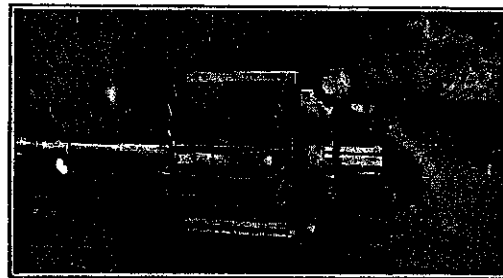
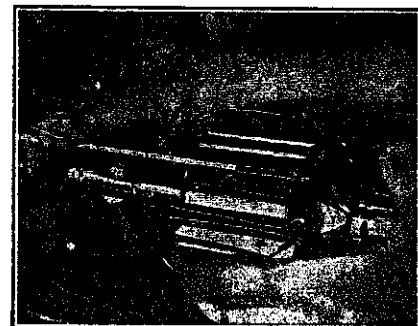
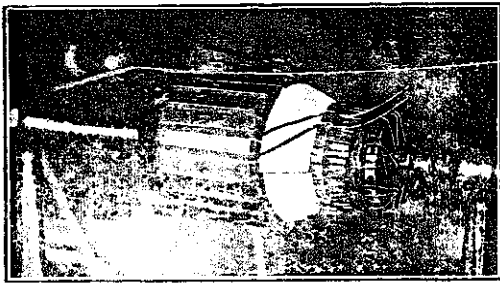
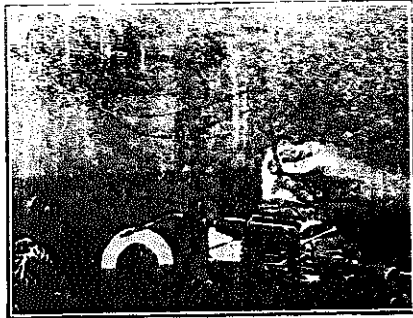

Figure 1
Figure 2
Figure 3
Figure 4
Next remove all 4 field coils. Use No. 18 P.E. wire, two strands in hand and wind 4 field coils to same size and shape as coils just removed. Wind these coils carefully, winding 57 turns per coil. Tape shape, then varnish. Connect all field coils in parallel, see Fig. 2 and "Schematic Connection Diagram." The two main brushes are only brushes used, thus eliminating control brush. Connect one field lead to generator terminal and other field lead to main ungrounded brush. Other main brush is already grounded. Be sure to use best brushes obtainable. Connect 6 volts to generator frame and generator terminal. Polarity has no effect. If motor runs in wrong direction, reverse the field leads. Lubricate as you do car generator.
When winding an armature, the job can be simplified by mounting the armature into a rack such as shown in Fig. 4. A rack of this nature can be easily constructed of wood by having the upright pieces mounted on a solid base and using wood screws or nails to form the points which fit into the center holes in the ends of an armature shaft.
The first step after the armature has been stripped is to test each bar to see that there is no short between it and the bar on either side of it or to the shaft. This can be done by means of the lamp test as described above. If any shorts or grounds appear they will have to be cleared by means of scraping away any foreign substances from between the bars and the shaft. If this cannot be done, it will be necessary to replace the commutator. Next, insulate that portion of shaft between the core and the commutator by means of adhesive tape or gummed paper as shown in Figure 1. This figure also shows the end laminations and armature insulation paper in place. Figure 2 shows an advanced stage in winding, with several coils wound, also showing some of the slots closed by means of the wooden wedges. Figure 3 shows the slots all closed. Note carefully how the tail end wire of each coil is folded back to
Where it is necessary to wind with two wires in each coil, such as is done on the Dodge 19 bar job and all Delco-Remy generators, Fig. 4 shows this work simplified by means of using two spools to take the wire from. This can also be done by having two wires wound on one spool but care must be used to see that each wire is followed through carefully as the wires should not be mixed; see instruction sheet of the armature to be wound.
The coil consists of a primary winding of 238 turns tapped at the 238th turn, and a secondary of 105 turns tapped at the 105th turn. Prepare a winding spool of hard wood, to the dimensions given in Fig. 1. Fasten the spool end (1) to the large end (X) of the spool drum (2) with flat head wood screws, and fasten spool ends (3) to the tapered end (Z) of the drum with round head wood screws and washers. Lay an 18" piece of stout string along each of the four sides of the spool drum, allowing the ends to project equally over the end pieces. Wrap a layer of old wrapping paper over the strings and around the drum, then the paper in place with a few turns of linen thread. Fasten the ends of the string out of the way by means of small tacks on the outside of the spool ends. (See Fig. 1.)
The primary, of No. 11 S.C.E. magnet wire, is wound in even layers over the paper. Leave a 12" length of wire at the beginning of the winding, to serve as the common primary lead (4). Wind on 238 complete turns, and at this point splice on a 12" lead of the same No. 11 wire to form the low tap (5) of the primary. Wind on 238 complete turns, and at this point splice on a 12" lead of the 238th turn, and a secondary of 105 turns tapped at the 105th turn. Prepare a winding spool of hard wood, to the dimensions given in Fig. 1. Fasten the spool end (1) to the large end (X) of the spool drum (2) with flat head wood screws, and fasten spool ends (3) to the tapered end (Z) of the drum with round head wood screws and washers. Lay an 18" piece of stout string along each of the four sides of the spool drum, allowing the ends to project equally over the end pieces. Wrap a layer of old wrapping paper over the strings and around the drum, then the paper in place with a few turns of linen thread. Fasten the ends of the string out of the way by means of small tacks on the outside of the spool ends. (See Fig. 1.)
Build up the iron core as in Fig. 2. Requires 17 to 18 lbs. of 26 ga. silicon steel. All core dimensions are given in Fig. 2 and Fig. 3. In Fig. 3, "First Layer," and "Second Layer," explain the method of arranging the alternate layers. Stagger all joints as shown in these diagrams, and be sure to fit all joints accurately. Tight joints in the core iron will prevent power loss and overheating. Use sufficient metal in the core to give a stack 1 1/4" thick when compressed. A total of 93 pieces to each of the four sections.
Form the four core clamps according to Fig. 4. Carefully clamp one end of the core, drawing the 1/4" bolts up snugly enough to hold the core while the clamps are put on the other end. Now tighten both clamps, and wrap one layer of armature paper on the core leg that is to hold the coil. Over the paper, wrap one layer of "Empire Cloth" or varnished cloth, starting at the bottom, and spiraling toward the top. Allow it to overlap a little less than half its width. A little of the insulating varnish applied to the under side of the cloth as it is wound will hold it. Trim away the surplus cloth and allow the varnish to dry. In the centers of two 5" squares of 1/4" fiber (11, Fig. 6), cut openings one and thirteen-sixteenths by two and one-sixteenth inches. Take off the top core clamp and carefully remove the end section of the core as shown in Fig. 4. Slip one of the fiber squares over the cloth covered core leg, slide
Lay out and drill the terminal panel made from 1/4" tempered pressed wood obtained from lumber yard. Form loops in the ends of the secondary leads by wrapping them around the brass bolts forming the secondary terminals. Run solder over these loops, Fig. 4. Cut the brass buss bar in the double outlet, removing enough of it so that no short will be possible between the high and low primary leads, which are connected to the two resulting terminals as shown in Fig. 6. The primary common lead (4) is connected to the brass buss as is, thereby making contact with both outlets, Fig. 6. Connect the secondary leads to their proper terminals, Fig. 6, and label them. Bolt the panel in place on the core clamps.
The core, Fig. 1, compresses to a thickness of 2 1/2" and is built up to the specifications in Fig. 2.
The coil is wound on a spool (Detail 3C). Lay 24" pieces of strong string along the four sides of the spool drum, and over them a double layer of armature paper (.010) is bound in place with thread. (Fasten the ends of the string out of the way by means of small tacks on the outsides of the spool ends.) Over this paper, wind the primary (Fig. 4 and Fig. 3 key), tapping the winding at various number of turns as indicated. All terminal leads (1), (2), (3), (4) and (5) are of No. 8 wire. They are all 12" long and are labeled. Taps are bound to the main wire with fine copper wire, the joints soldered and taped. Fasten lead (5) with tape and wrap the primary with two layers of armature paper and one layer of varnish cloth .007 thickness, bound with thread.